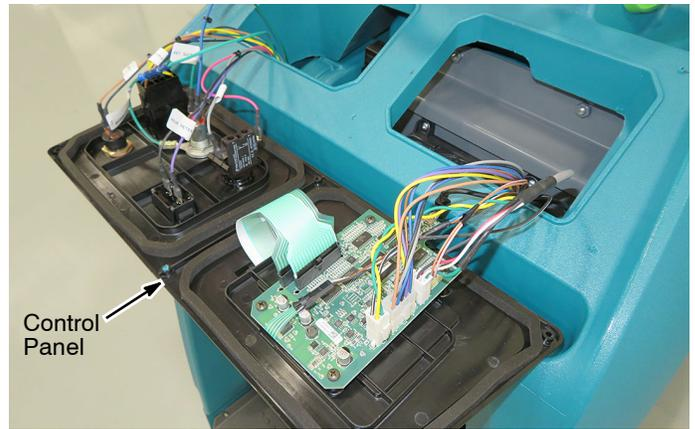

Fig. 13
- Remove the six mounting screws from the control panel and carefully position the panel as shown (Figure 13).